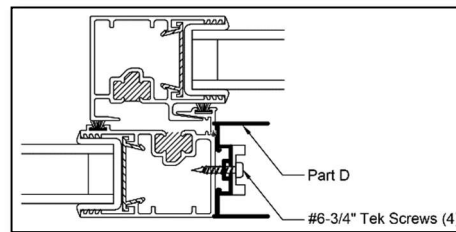

Figure 1
Install base jamb mount (part D) with anchor plates (part F, factory installed) on to fixed panel interlock (outside track) using #6-3/4" Tek screw (4) evenly spaced. (See fig. 1)